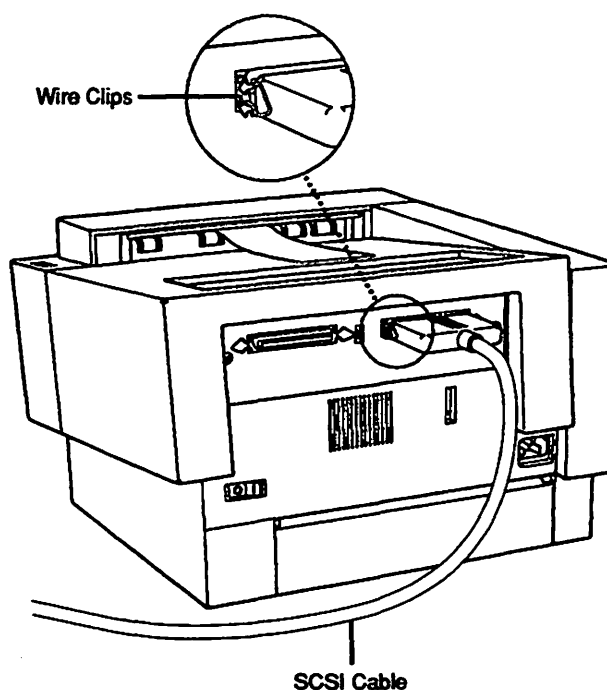

Figure 3-4
4. Connect the SCSI (or peripheral) cable to the LaserWriter, as Figure 3-4 shows.